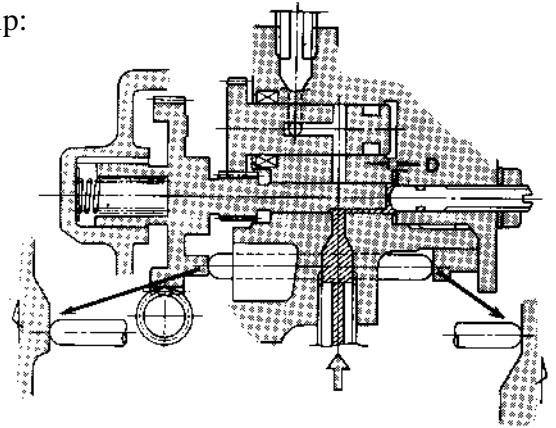

Fig. 85 Oil intake - zero throttle
The distance of the shaft of the plunger to the adjust screw (D) is shortened to less than the height of the worm wheel cam, thereby reducing the volume of oil. (Fig. 85, 86)